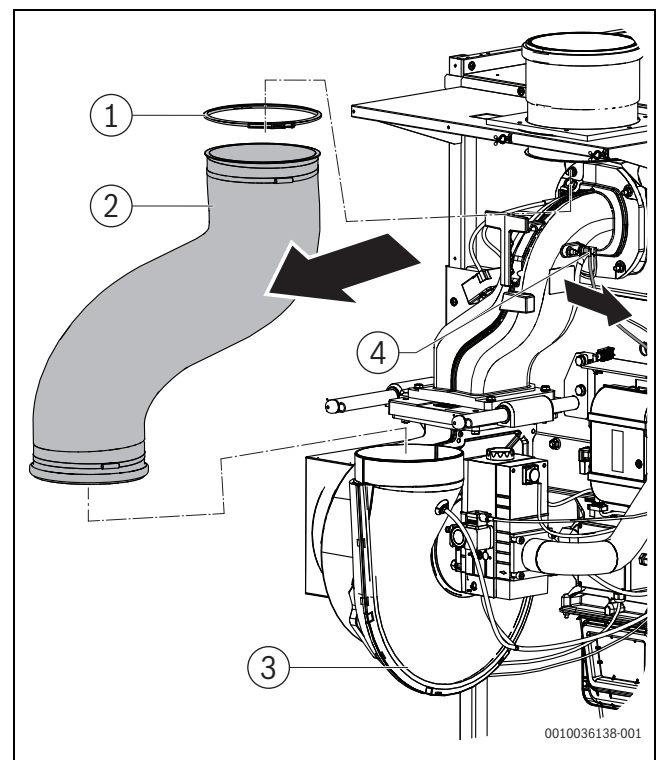

Fig. 56 Undoing the supply air hose
- Undo toggle clip (→Fig. 56, [1] at the ) top of the supply air collector.
- Remove the supply air hose (→Fig. 56, [2] ) from the upper inlet duct.
- Undo the temperature switch / burner controller connecting cable on the mixture manifold (→Fig. 56).